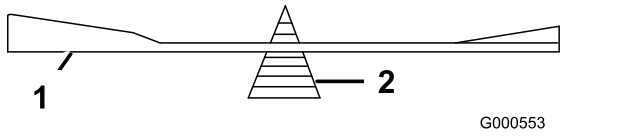

Figure 95
2. Check the balance of the blade by putting it on a blade balancer (**Figure 95**).